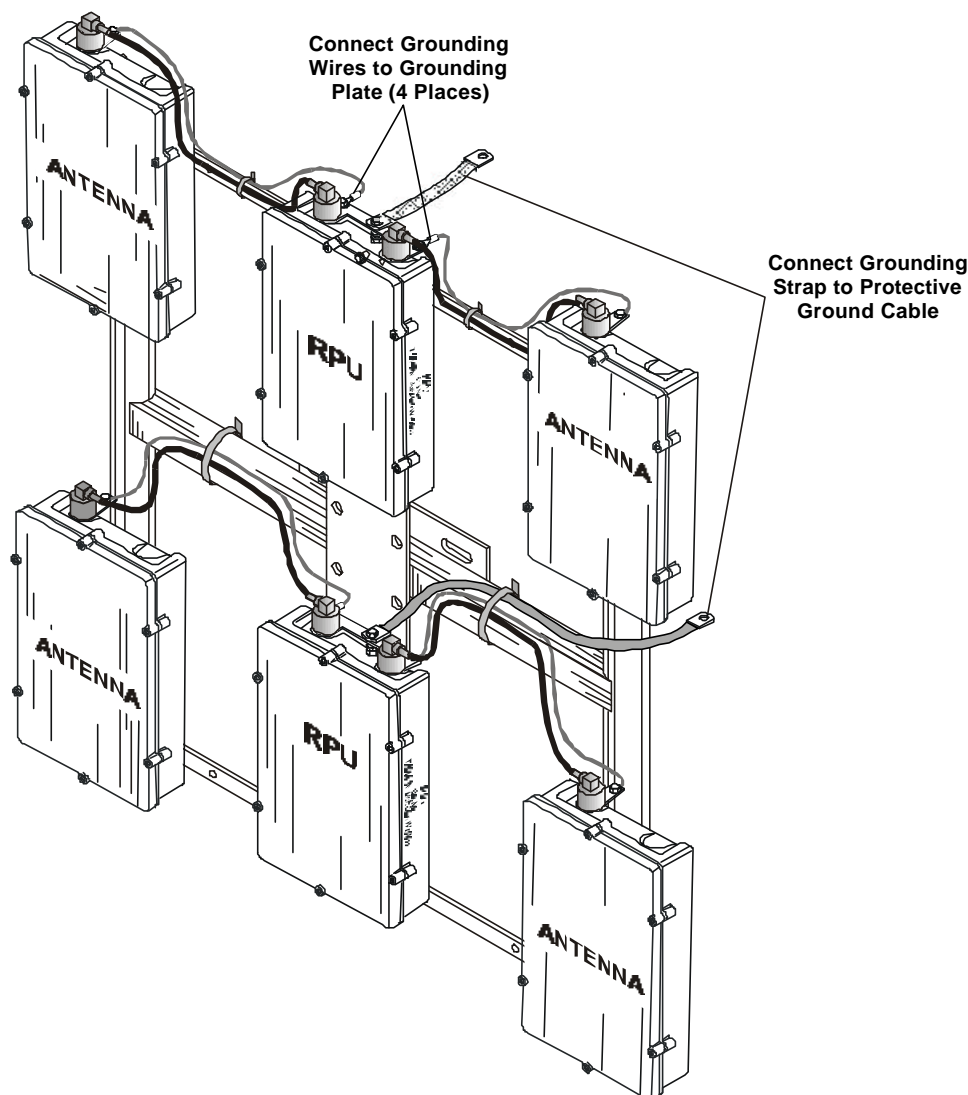
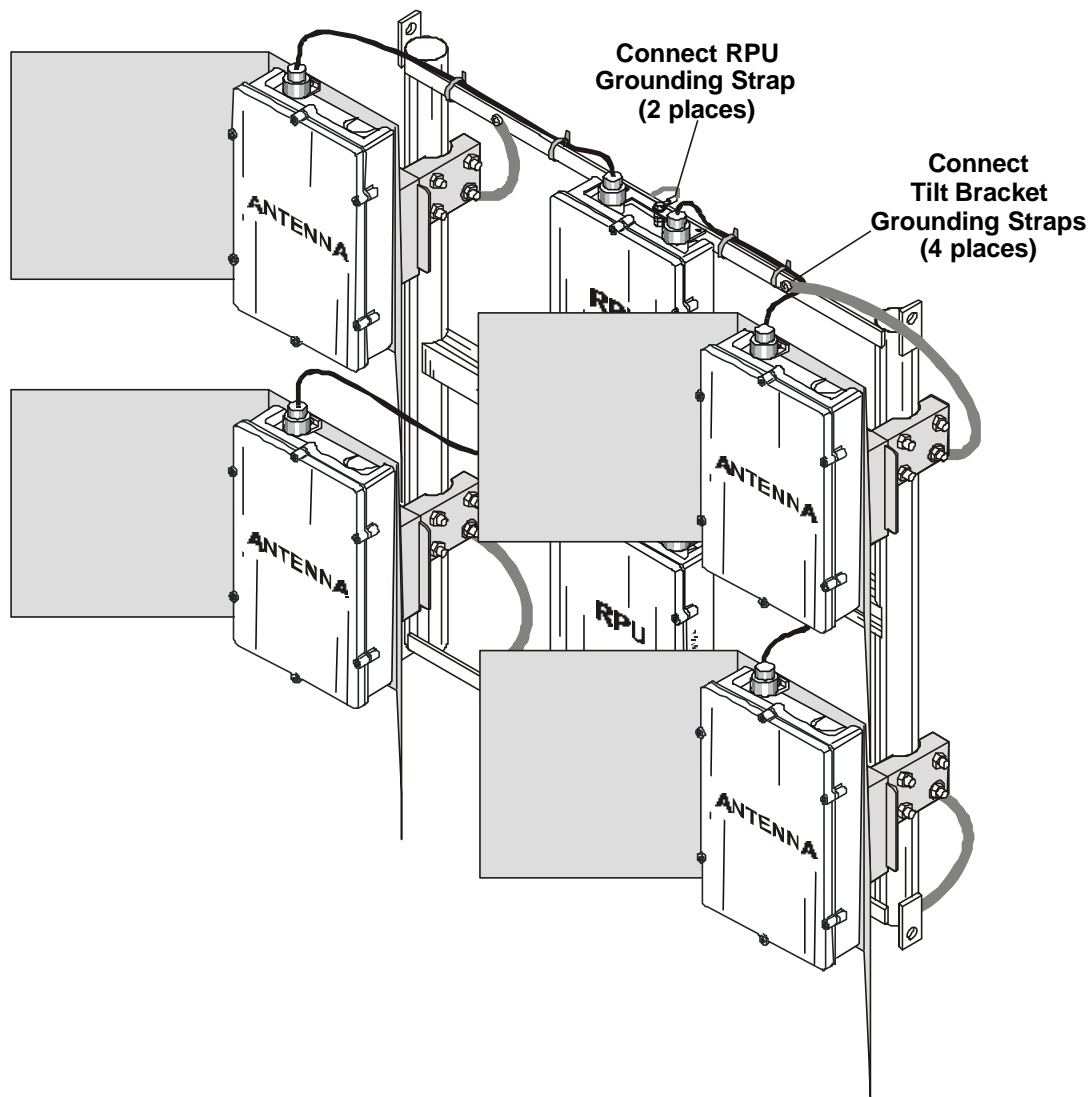
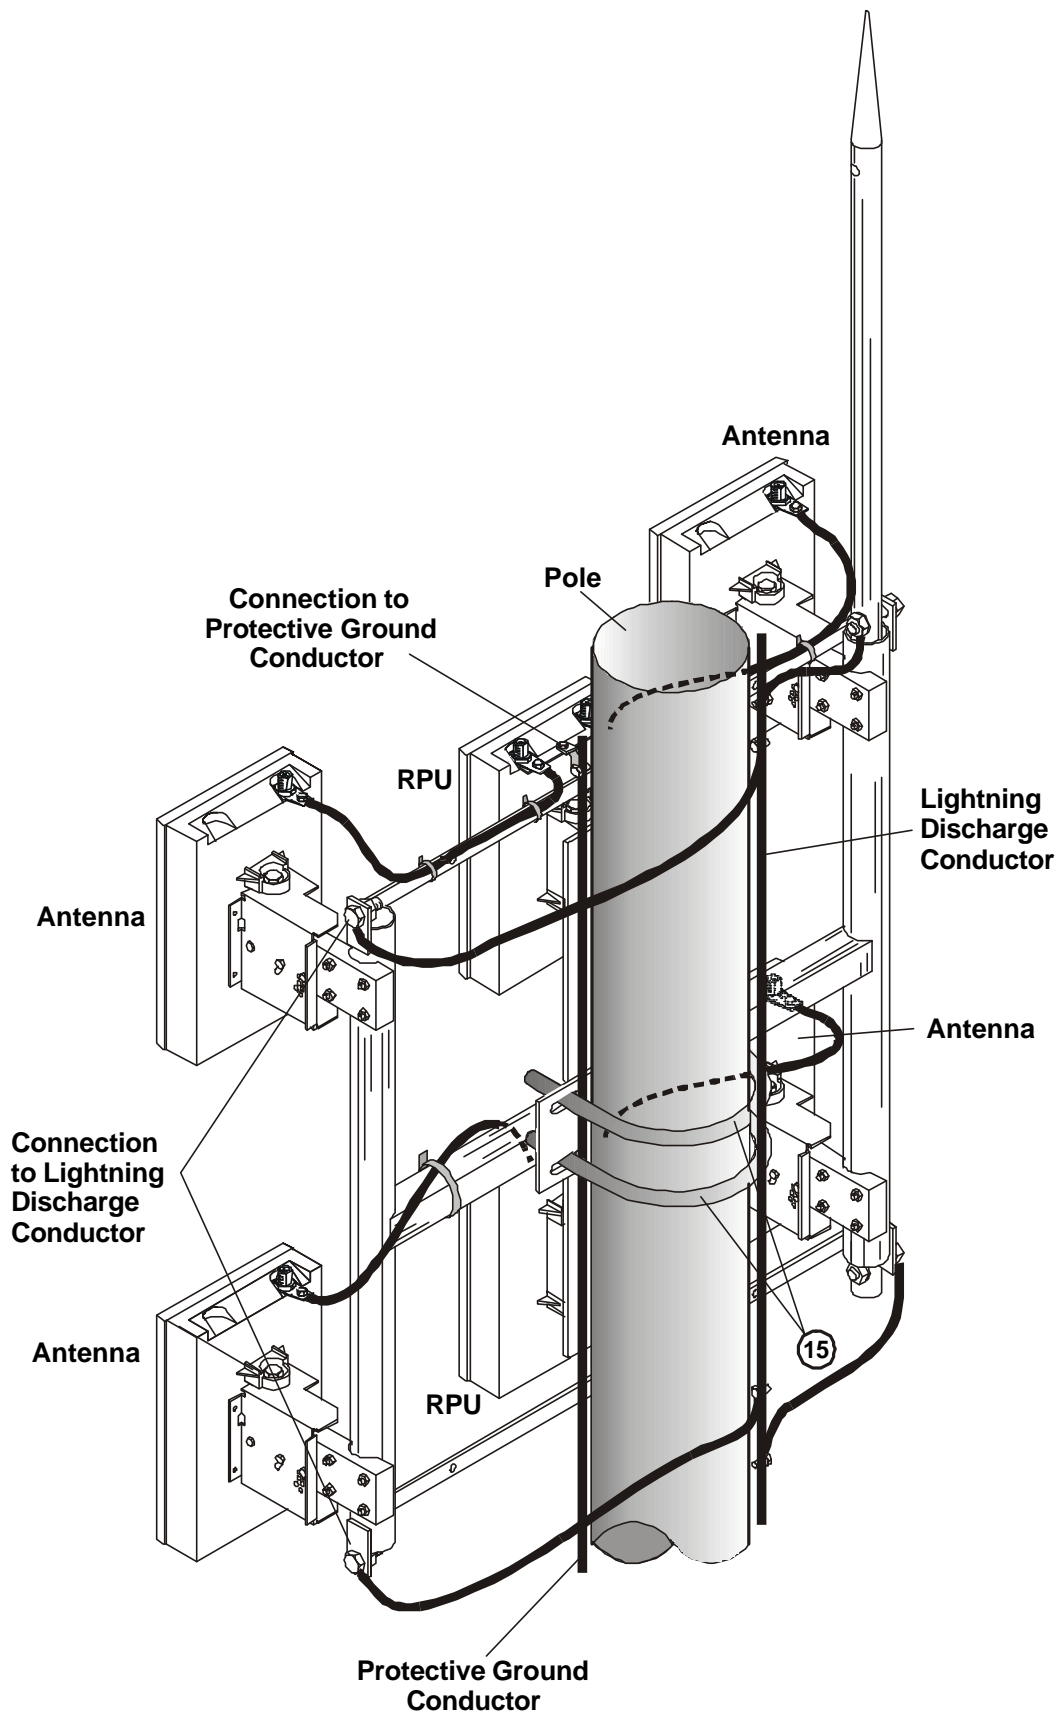
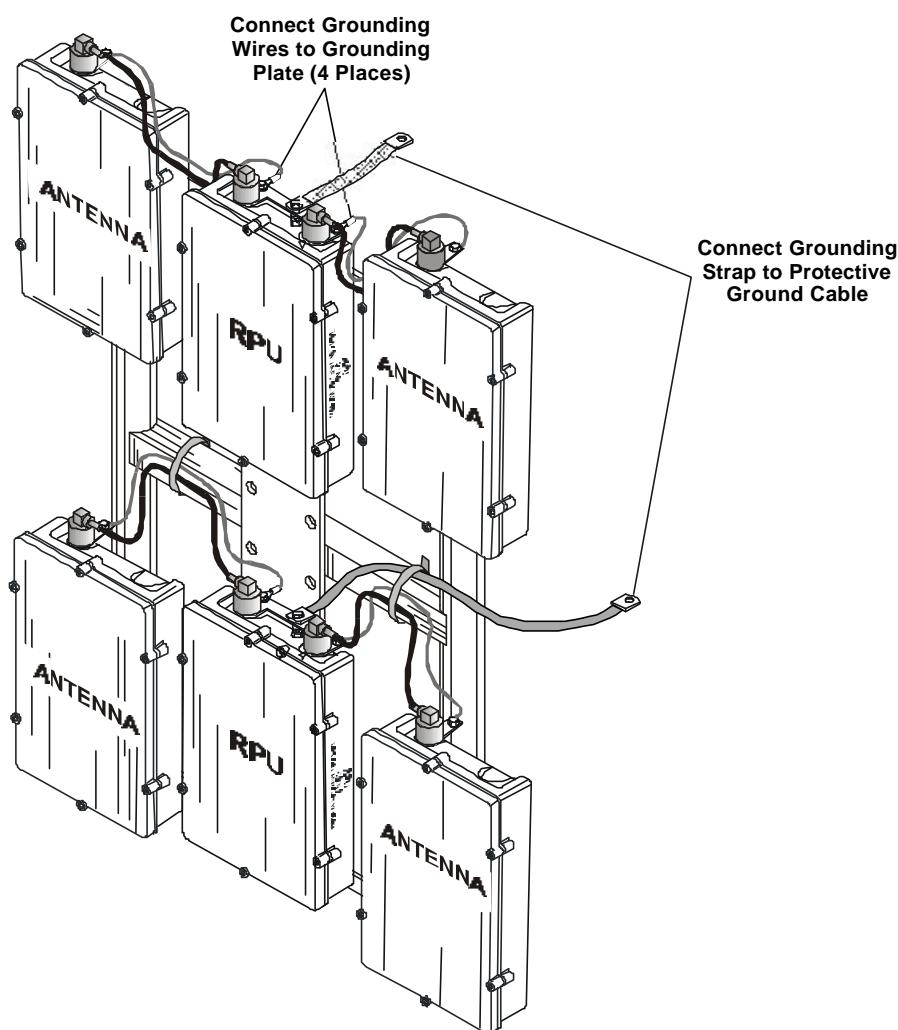

Figure 3-23. Two RPU Stations Mounted on Wide H-Support
Figure 3-24. Two RPU's and Antennas with External Reflectors Mounted on H-Support
Figure 3-25. Mounting of H-Support on Pole (RF Cables Not Shown)
Figure 3-26. Two RPU Stations Mounted on Narrow H-Support
Figure 3-23 shows two RPU's and four sectorized antenna without external reflectors attached to a H-support. Figure 3-24 shows two RPU's and four sectorized antenna with external reflectors attached to a H-support.
Refer to Figure 3-2 and Figure 3-23 through Figure 3-25. Numbers in brackets indicate the numbers of items in Figure 3-2 and Figure 3-25.
- Five. Attach the H-support by means of two U-bolts (15), flat and spring shims and nuts as shown in Figure 3-2 and Figure 3-25.
- Six. Connect the H-support to the pole lightning discharge cable by means of grounding straps, bolts, flat and spring shims and nuts as shown in Figure 3-25.
Perform the procedure of para. 3.11.2.6. Refer to Figure 3-23 or Figure 3-24 for the connections to be made to equipment installed on wide H-supports, and to Figure 3-26 for the connections to be made to equipment installed on narrow H-supports.
- Seven. Connect the H-support to the tower lightning discharge conductor, by means of grounding cables, as shown in Figure 3-25 and Figure 3-26.